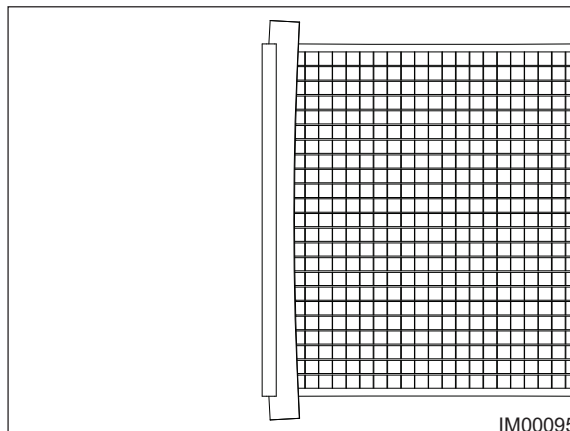

Fig: 11.34 - Camber Bar Position
10. Insert camber bars ensuring the curved section of the bar is slotted into the holding hook (Fig: 11.34).